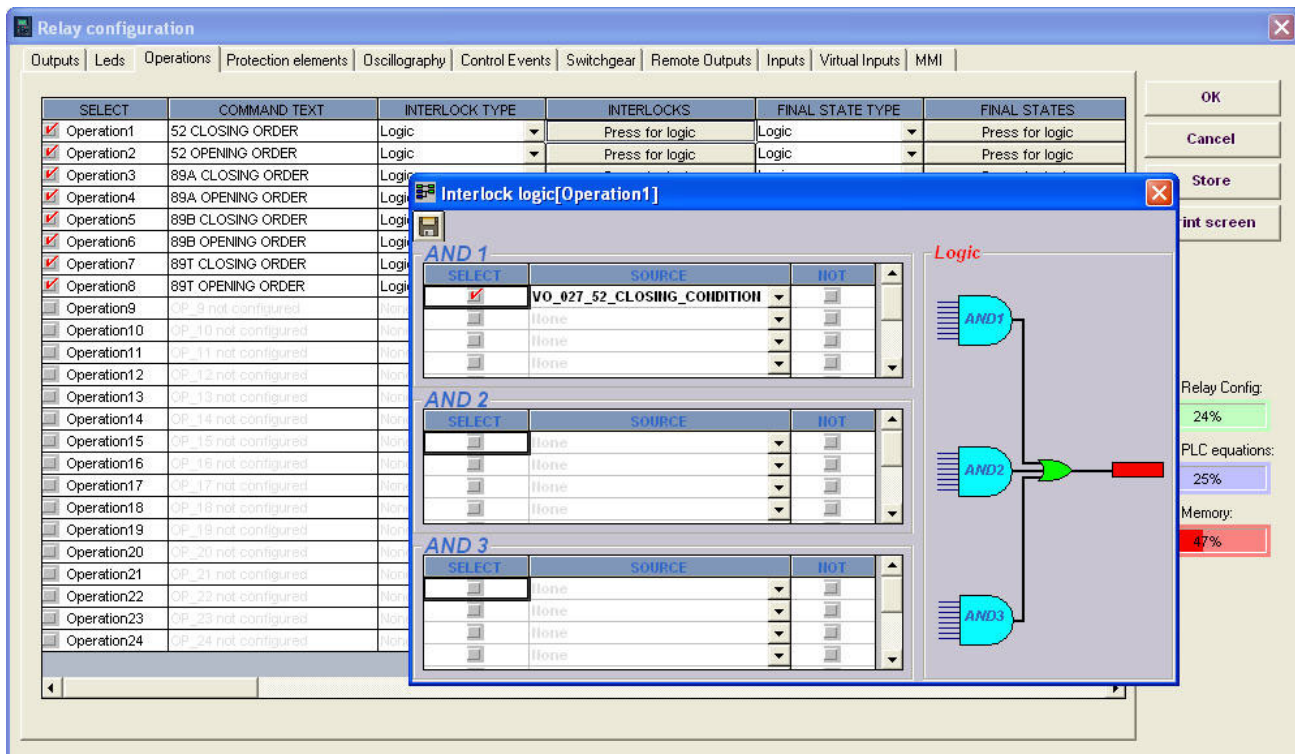

Figure 5-23: Operations and interlocks
- **Interlocks** setting define the desired interlocks. This setting is enabled selecting the “**logic**” option in “**Interlock type**”. In the “**Interlock logic**” screen we can set the interlock logic, as shown on Figure 5-23: Operations and interlocks